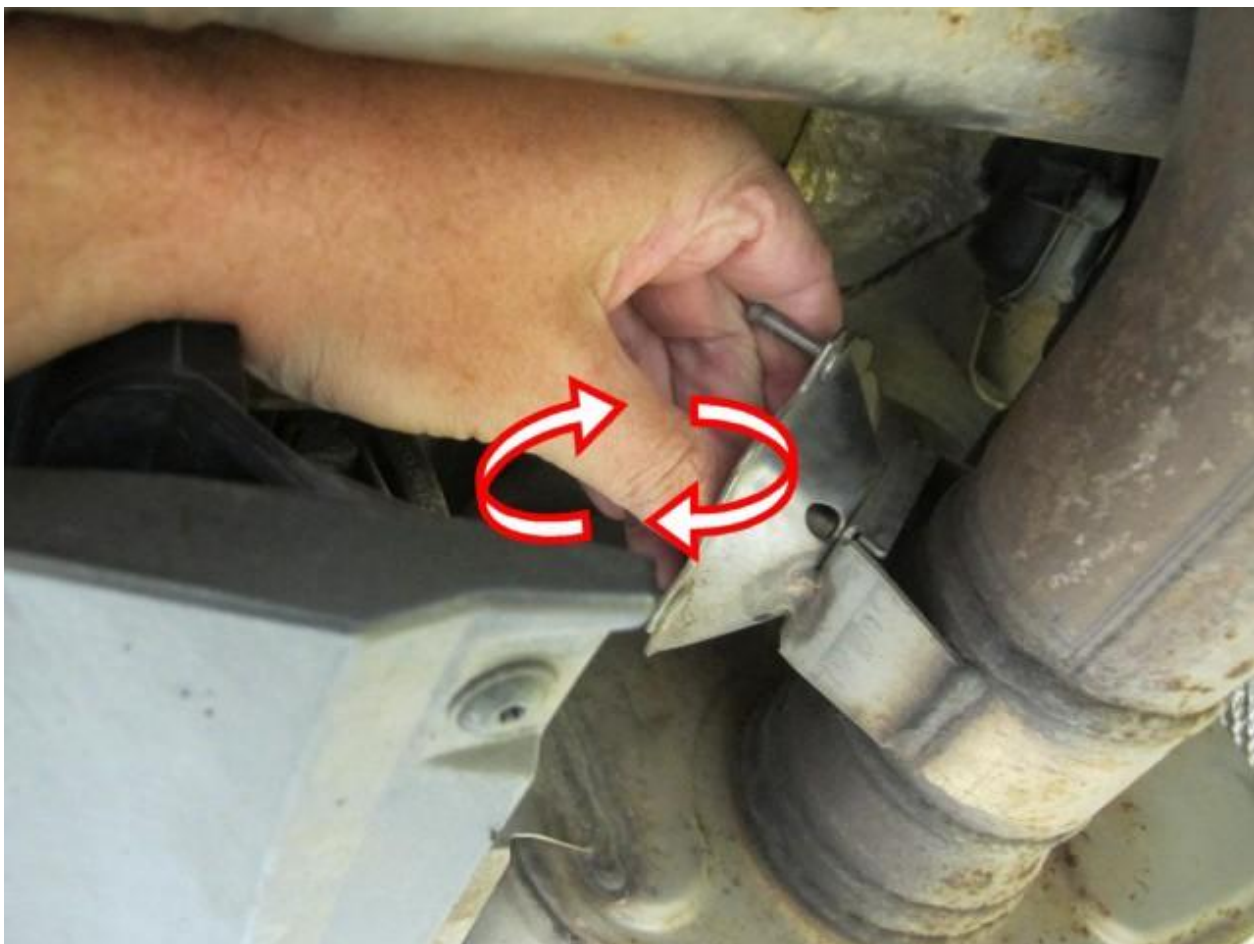

Figure 1
- Check and confirm the exhaust flap can be rotated by hand (clockwise and anti-clockwise) without the control unit fitted (Figure 1)